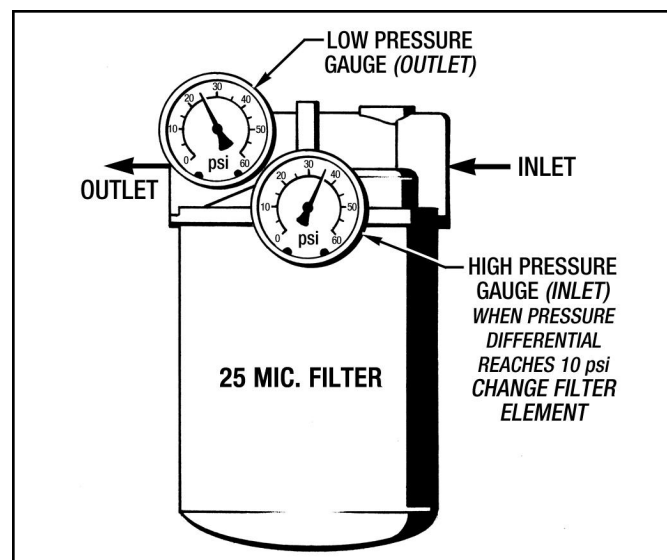

Figure 3 - Fluid Filter and Gauges
1. **Using (2) pressure gauges installed on the fluid filter.** One on the filter inlet and one on the filter outlet. When the inlet pressure differential reaches 10 psi, it is time to replace the filter element. (See Figure 3)